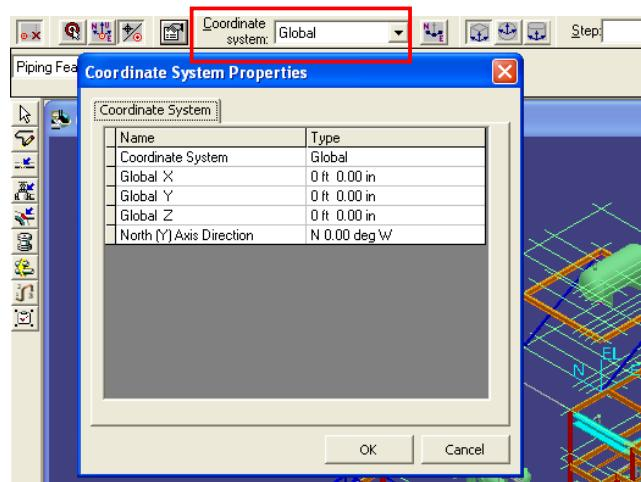

Figure 4: Coordinate System Properties
- **Properties of Active Coordinate System** - Shows the properties of the active coordinate system selected in the **Coordinate system** drop-down list (Figure 4).